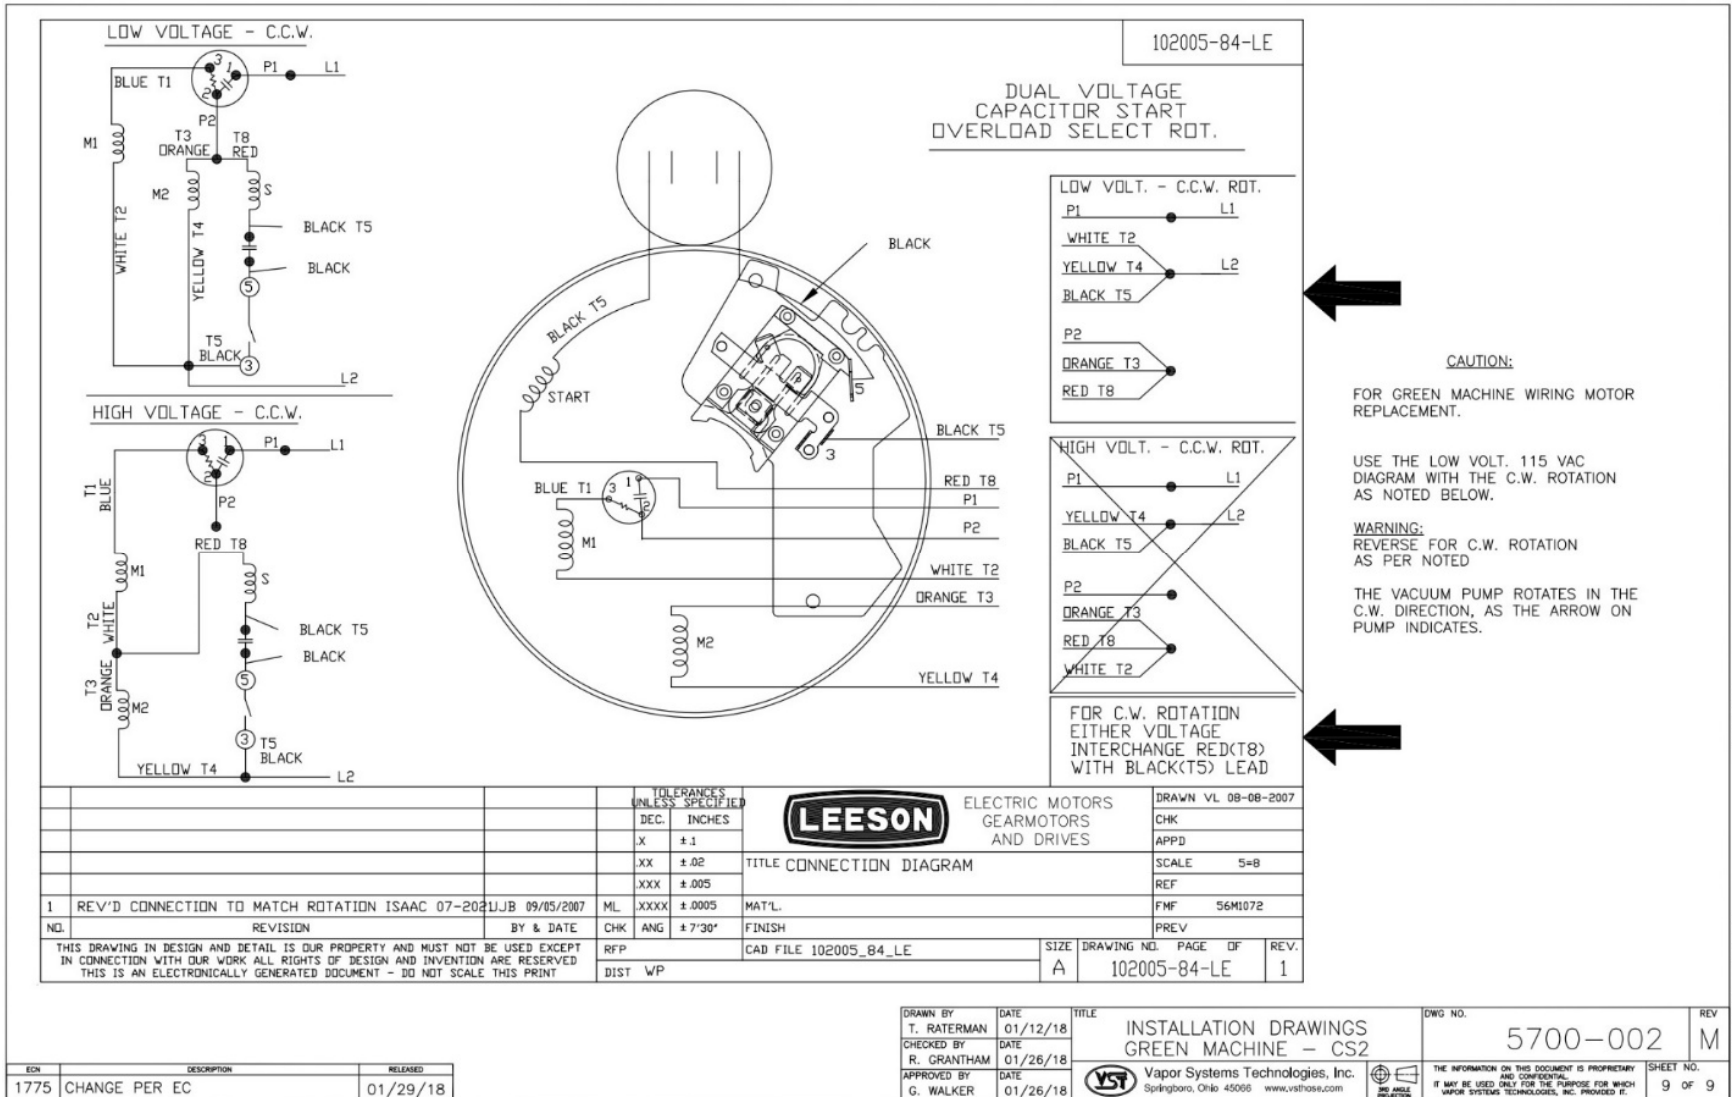

Figure 9-15: Junction Box Motor Wiring Diagram
5. Disconnect the motor wires inside the motor junction box. **See Figure 9-15.**
See Figure 9-15.